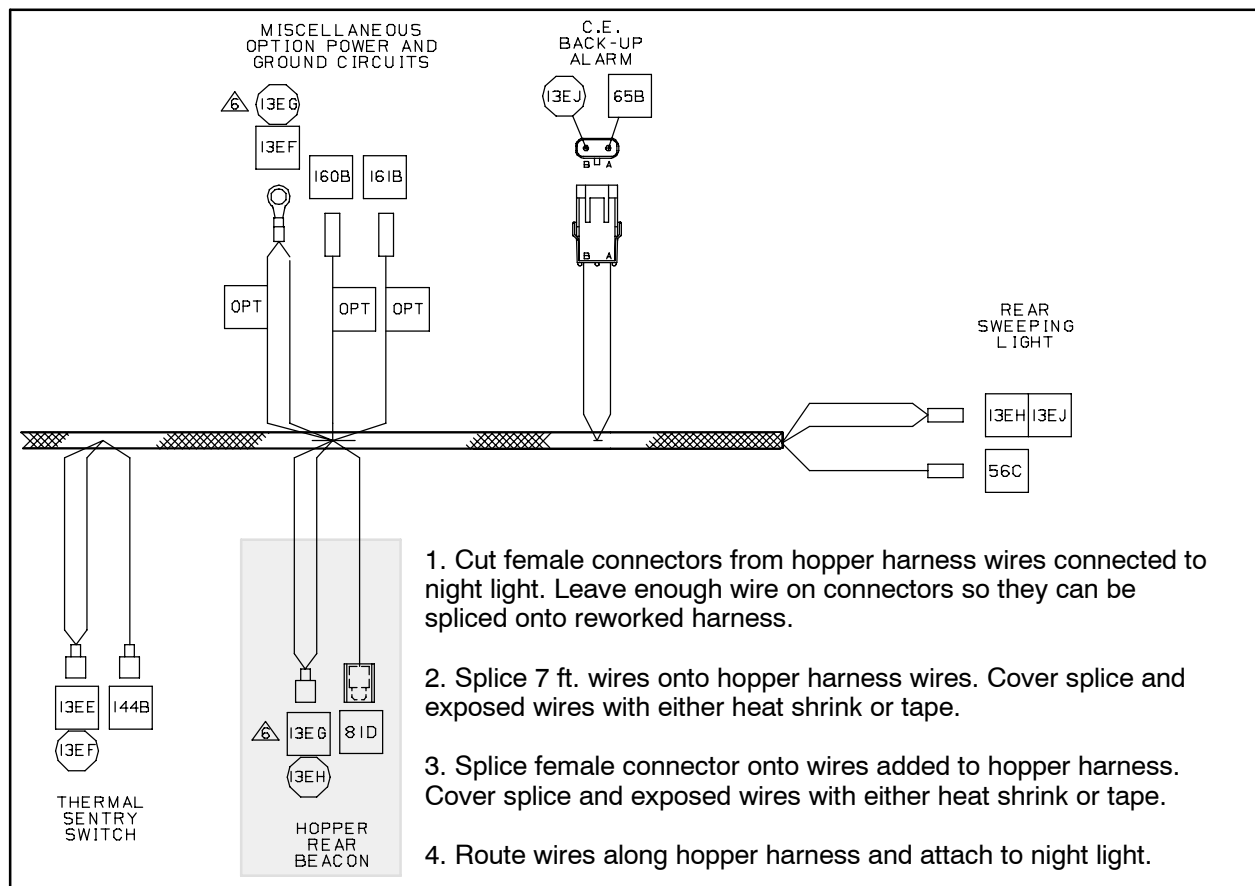

FIG. 35
59. Cut the existing female connectors from the portion of the hopper harness previously attached to the night light. Leave enough wire on the connectors so they can be spliced onto the reworked harness. Set the female connectors aside. Refer to Fig. 35.
60. Splice an additional 7 ft. of wire onto each wire cut in the previous step. Apply heat shrink or wrap tape over each splice to protect the splice and exposed wires from the elements. Refer to Fig. 35.
61. Splice the female connectors onto the ends of the 7 ft. wires. Apply heat shrink or wrap tape over each splice to protect the splice and exposed wires from the elements. Refer to Fig. 35.
62. Route the wires spliced to the hopper harness along the hopper harness and to the side of the machine where the night light is mounted. Use cable ties (13) to secure the wires to the hopper harness.
63. Connect the wires spliced to the hopper wire harness to the night light. Refer to Fig. 35.